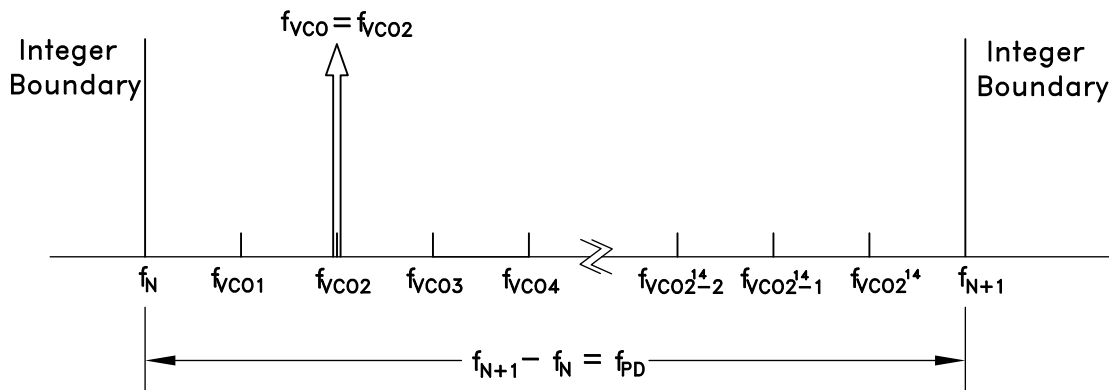

Figure 44. Exact Frequency Tuning
and f_{VCOk} are the channel step frequencies where $0 < k < 2^{24}-1$, As shown in Figure 44.
Some fractional PLLs are able to achieve this by adjusting (shortening) the length of the Phase Accumulator (the denominator or the modulus of the Delta-Sigma modulator) so that the Delta-Sigma modulator phase accumulator repeats at an exact period related to the interval frequency ($f_{VCOk} - f_{VCO(k-1)}$) in Figure 44. Consequently, the shortened accumulator results in more frequent repeating patterns and as a result often leads to spurious emissions at multiples of the repeating pattern period, or at harmonic frequencies of $f_{VCOk} - f_{VCO(k-1)}$. For example, in some applications, these intervals might represent the spacing between radio channels, and the spurious would occur at multiples of the channel spacing.
If it is desirable to have multiple, equally spaced, exact frequency channels that fall within the same interval (ie. $f_N \leq f_{VCOk} < f_{N+1}$) where f_{VCOk} is shown in Figure 44 and $1 \leq k \leq 2^{14}$, it is possible to maintain the same integer-N (Reg 03h) and exact frequency register (Reg 0Ch) settings and only update the fractional register (Reg 04h) setting. The Exact Frequency Channel Mode is possible if (EQ 17) is satisfied for at least two equally spaced adjacent frequency channels, i.e. the channel step size.
To configure the HMC833LP6GE for Exact Frequency Channel Mode, initially and only at the beginning, integer (Reg 03h) and exact frequency (Reg 0Ch) registers need to be programmed for the smallest f_{VCO} frequency (f_{VCO1} in Figure 44), as follows:
1. Calculate and program the integer register setting Reg 03h = $N_{INT} = \text{floor}(f_{VCO1}/f_{PD})$, where f_{VCO1} is shown in Figure 44 and corresponds to minimum channel VCO frequency. Then the lower integer boundary frequency is given by $f_N = N_{INT} \cdot f_{PD}$.
$$\text{Reg04h} = N_{FRAC} = \text{ceil} \left(\frac{2^{24} (f_{VCOk} - f_N)}{f_{PD}} \right) \quad \text{where } f_N = \text{floor}(f_{VCO1}/f_{PD}), \text{ and } f_{VCO1}, \text{ as shown in Figure 44, represents}$$
4. To change from channel 1 ($f_{VCO1} = 2800.2$ MHz) to channel 2 ($f_{VCO2} = 2800.3$ MHz), only **Reg 04h** needs to be programmed, as long as all of the desired exact frequencies f_{VCOk} (Figure 44) fall between the same integer-N boundaries ($f_N < f_{VCOk} < f_{N+1}$). In that case